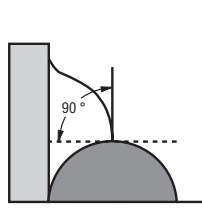

FIGURE 2 - UNACCEPTABLE
- (1) The solder connection wetting angle (solder to component and solder to PCB termination) does not exceed 90 °.
- (2) Solder balls that do not violate minimum electrical clearances and are attached (soldered) to a metal surface.
- B) Unacceptable (see Figure 2)
- (1) Solder connection wetting angle exceeding 90 °.
- (2) Incomplete reflow of solder paste.
- (3) Dewetting.